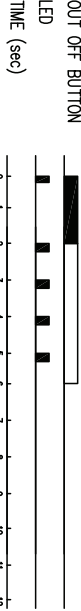

FIGURE 2: TEACH OBJECT (NORMALLY OPEN)
–PRESS OUT ON BUTTON ON THE SENSOR UNTIL LED ARE FLASHING CONTINUOUSLY (MIN. OF 6 SEC). THE OBJECT WILL BE CALIBRATED WHEN THE OUT ON BUTTON IS RELEASED. (SEE FIGURE 2)